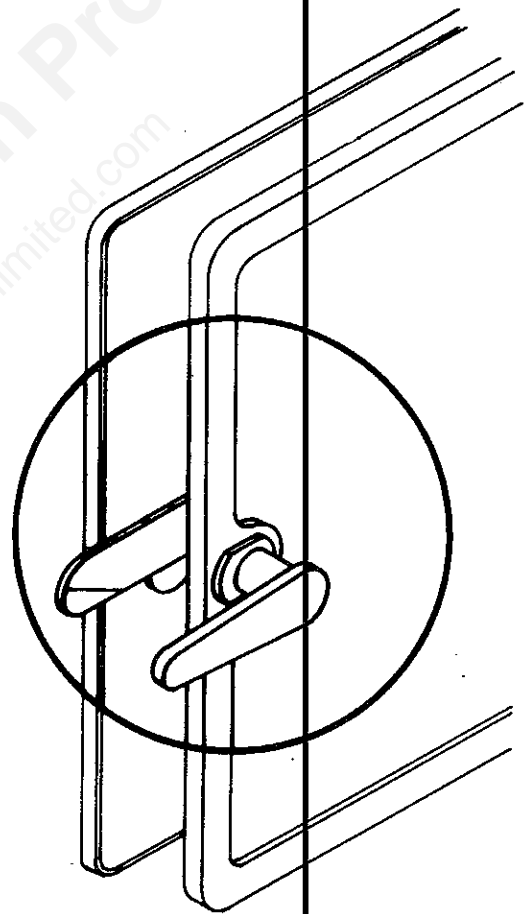

FIG. 11
4. Then to open door, turn the handle counter clockwise to the 9 o'clock position and then continue to pull the door open. (Fig. 11).